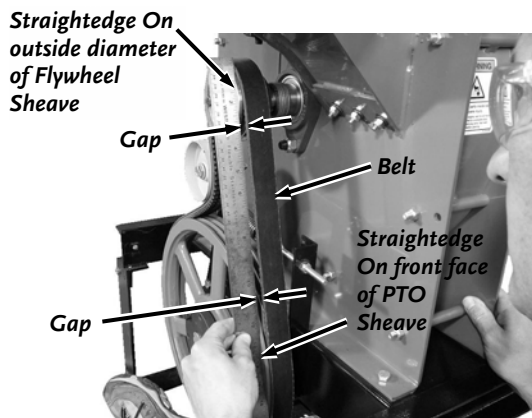

Figure 33
3. Check the alignment of the Belt Sheaves by placing a Straightedge across the PTO Sheave front face and resting the other end on the outside diameter of the Flywheel Sheave (**Figure 33**).